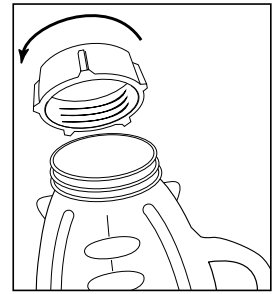

FIGURE 4
5. Place threaded jar nut or threaded jar skirt over blade and jar (Note: If there are slots on top of collar, line them up with notches on jar.) Place the threaded jar nut or threaded jar skirt on jar and turn it clockwise to tighten. (Figure 4)